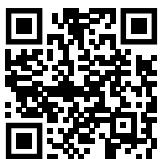

Fig. 133
- Hapni Liebherr SmartMonitoring Dashboard. (shihni Fig. 133)